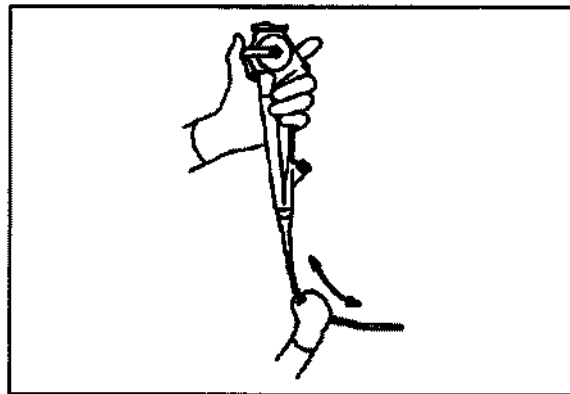

Fig 3.4
4. Holding the operation section with one hand, the entire surface of the insertion part and the light stroking in two directions with the other hand. (See fig3.4). Confirm no objects or wire from the insert protrusion inserted into the pipe and make sure that no abnormal hard.